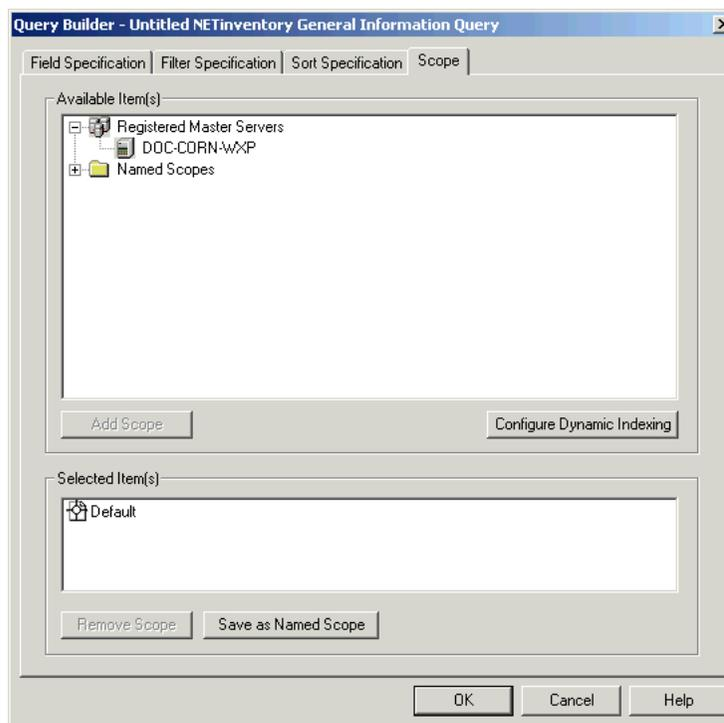

Fig. 249 Query Builder Dialog - Scope Tab
- 1 Select the **Scope** tab on the **Query Builder** dialog (Fig. 249).
- 1 Select the **Scope** tab on the **Query Builder** dialog (Fig. 249 on page 251).
- 1 Expand the **Named Scopes** folder on the **Scope** tab on the **Query Builder** dialog (Fig. 249 on page 251).